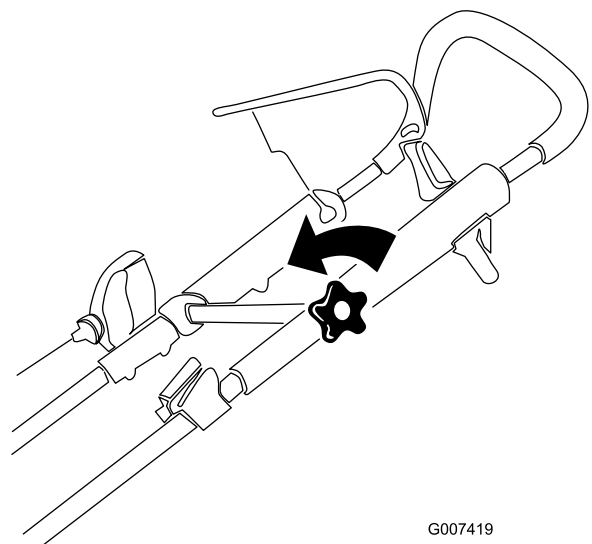

Figure 19
1. Loosen the upper handle knob (Figure 19).